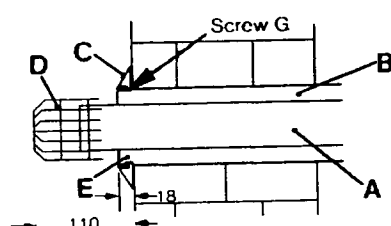
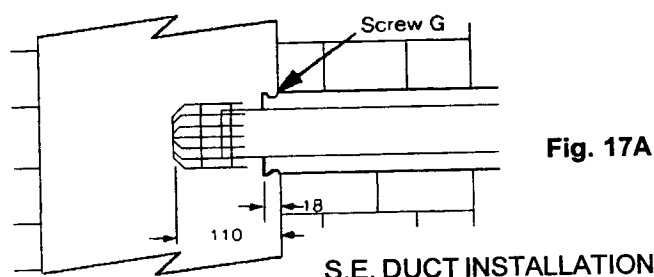

Fig. 17
Fig. 17A
Separate the two tubes by removing screw G (fig. 17).
5.5.8 Ensure inner and outer terminal tubes are firmly fitted together with screw G fig.17. Push the terminal tubes through the wall until the face of the outer tube protrudes 18mm from the face of the wall (fig. 17). The terminal grill (D) will then protrude 110mm from the wall face.
5.5.15 Check also that the outer end of the flue projects as indicated in fig. 17 or fig. 17A if installed in a S.E. duct.
- 5.5.18 Seal the peripheral gap around the outer tube with cement or mastic and slip the cosmetic flexible plastic collar (fig. 17) item C) into groove on the pipe. This operation can only be carried out with external access. Seal the internal wall face around the air duct.
NOTE: The two tubes must be separated by removing screw G fig. 17 before cutting.